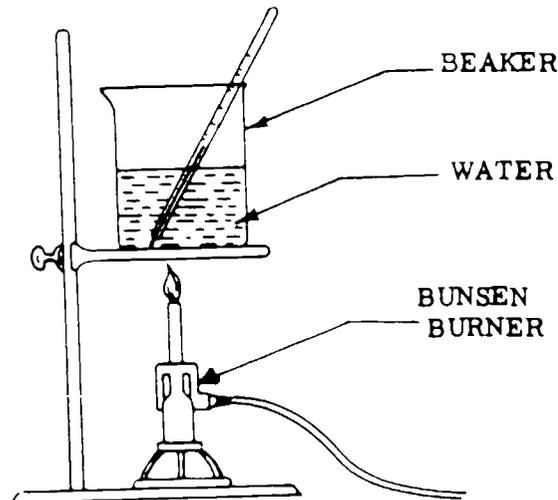

Figure 2. Measuring Heat of Water
1. Weigh or measure one pound (500 ml) of fresh water ( $H_2O$ ) and pour it into a large beaker. (See figure 2.)